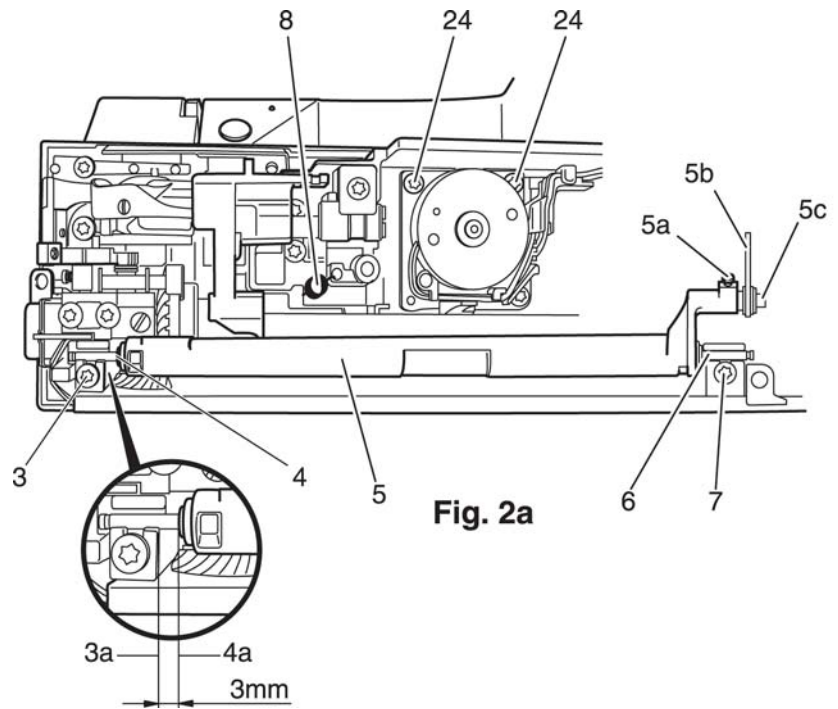

Fig. 2a
- Lightly tighten the three screws 24 (fig. 2a).